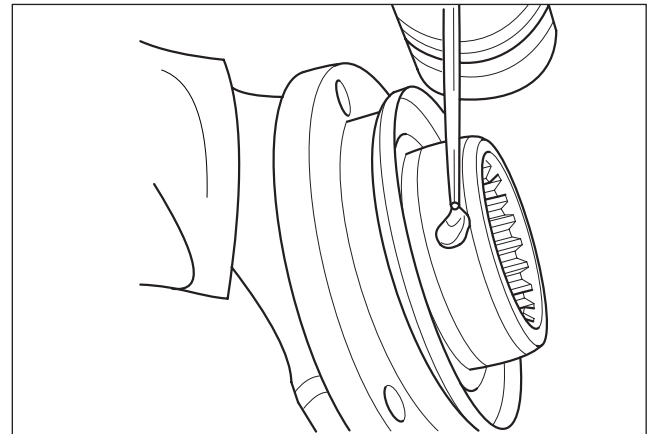

Fig. 4.7
2. If the deflector does **not** need to be replaced, lubricate the seal rotary sleeve journal of the flange (Fig. 4.7)